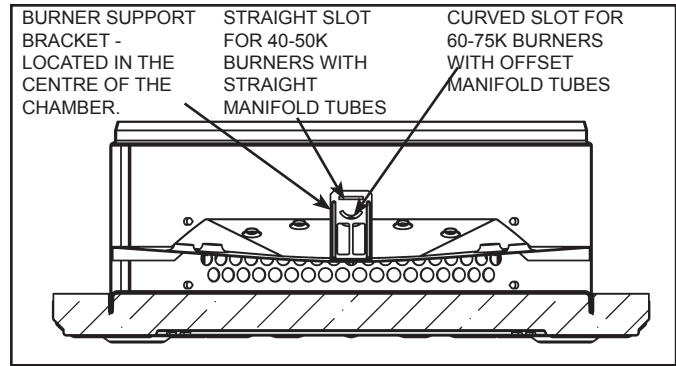

Figure 16. Manifold/Burner Assembly
1. Insert the manifold/burner assembly in the burner chamber compartment, making sure that the tip of burner manifold tab engages in the proper slot of the bracket. The tip end of the burner manifold **MUST** be placed in the slotted portion under the condensation pan to obtain proper installation. See *Figure 16* (page 14).
- Insert the manifold/burner assembly in the burner chamber compartment, making sure that the tip of burner manifold tab engages in the proper slot of the bracket. See **Figure 16** (page 14).